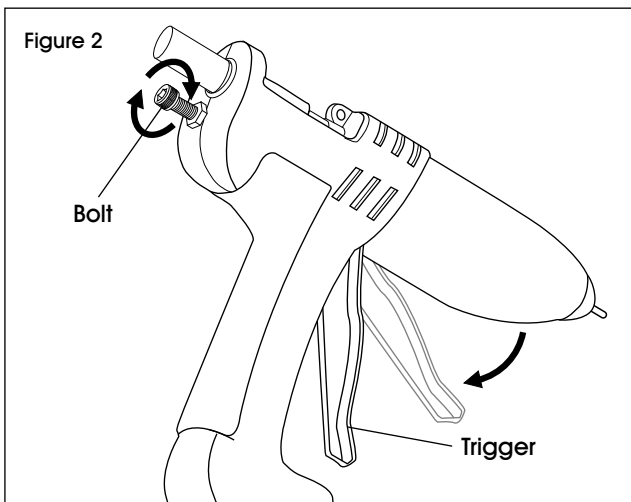

Figure 2
3. Operate the trigger to feed the glue stick forward until resistance is felt. Use provided bolt to adjust output of glue per stroke. (See Figure 2)